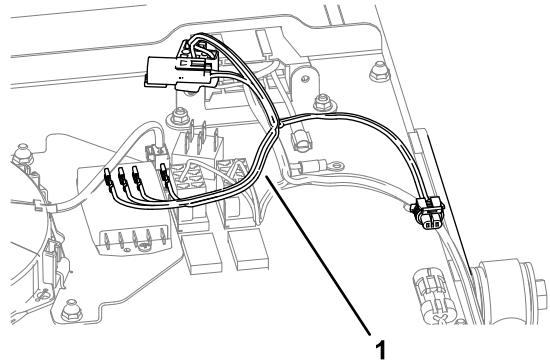

Figure 7
1. Align the wire harness of the kit to the switch panel as shown in Figure 7.